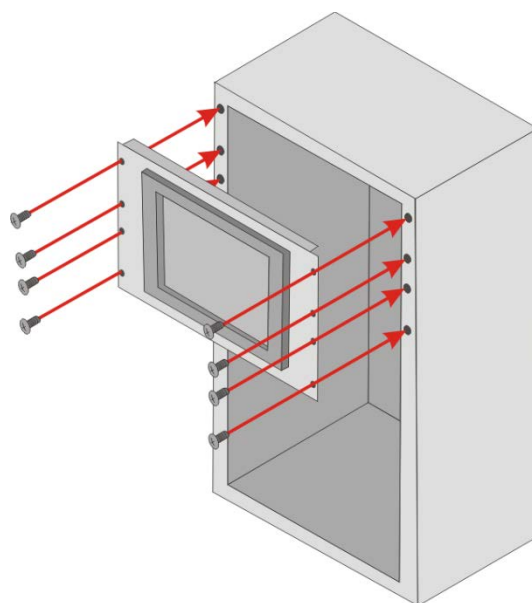

Figure 3-34: Install into a Rack/Cabinet
Step 6: Slide the panel PC with the attached rack/cabinet bracket into a rack or cabinet (Figure 3-34).
Step 7: Once the panel PC with the attached rack/cabinet bracket has been properly inserted into the rack or cabinet, secure the front of the rack/cabinet bracket to the front of the rack or cabinet (**Figure 3-34**).